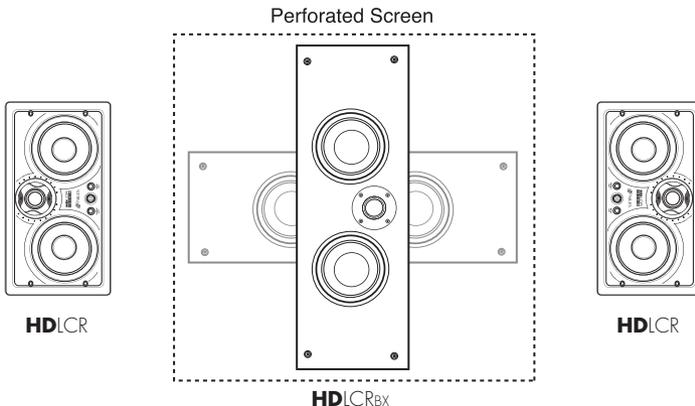

Figure 3. Recommended HDLCR_{BX} center-channel placement behind a perforated projection screen.
- For installations where a perforated projection screen will be used, place the HDLCR_{BX}, either horizontally or vertically, behind the screen at ear level, as shown in **Figure 3**.